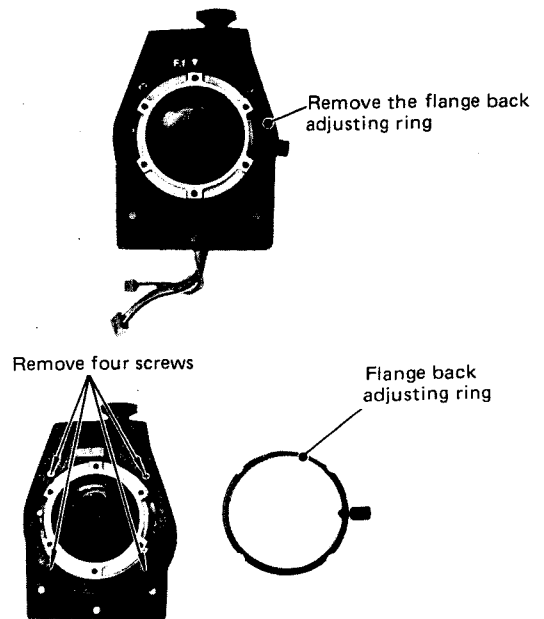

Fig. 4-5
- o Remove the flange back adjusting ring and remove four screws which hold the lens mounting assembly and remove the lens mounting assembly. (Fig. 4-5)